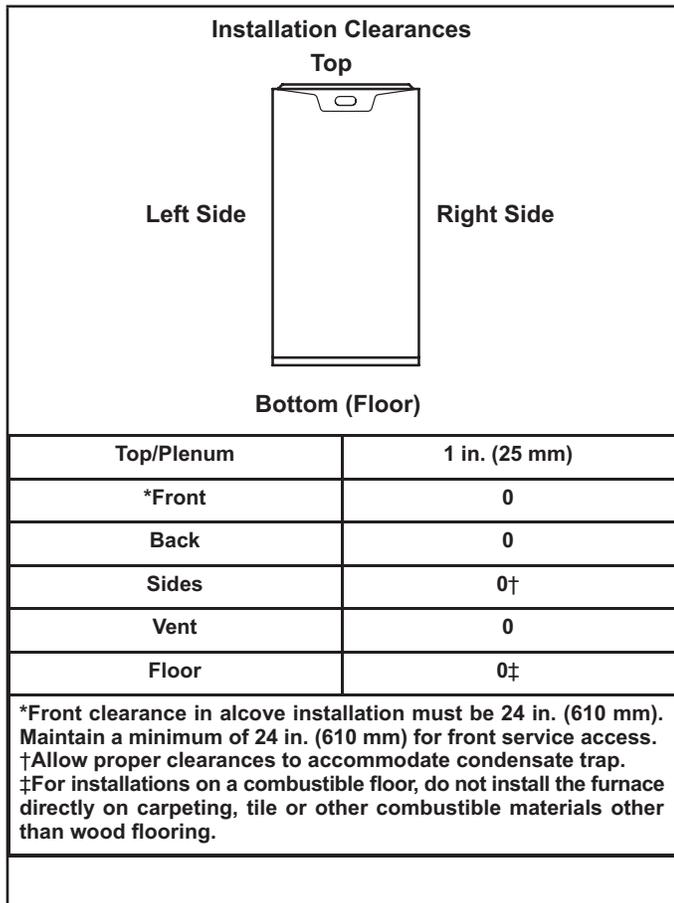
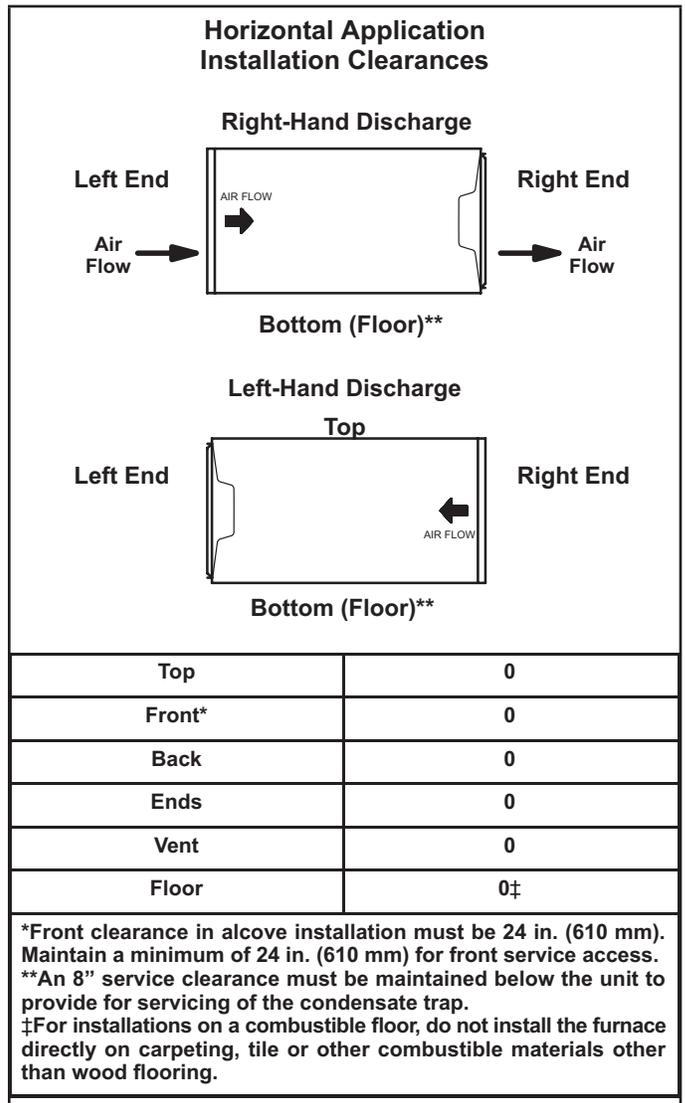

FIGURE 10
FIGURE 11
This furnace is designed for installation clearances to combustibles as listed on the unit nameplate and in the tables in FIGURE 10 and FIGURE 11. Accessibility and service clearances must take precedence over fire protection clearances.
The SLP99UHV gas furnace can be installed as shipped in the upflow position. Refer to figure 10 for clearances. Select a location that allows for the required clearances that are listed on the unit nameplate. Also consider gas supply connections, electrical supply, vent connection, condensate trap and drain connections, and installation and service clearances [24 inches (610 mm) at unit front].
Allow for clearances to combustible materials as indicated on the unit nameplate. Minimum clearances for closet or alcove installations are shown in FIGURE 10 and FIGURE 11.
The SLP99UHV furnace can be installed in horizontal applications with either right- or left-hand air discharge. Refer to FIGURE 11 for clearances in horizontal applications
- 1 - Select location for unit keeping in mind service and other necessary clearances. See FIGURE 11.